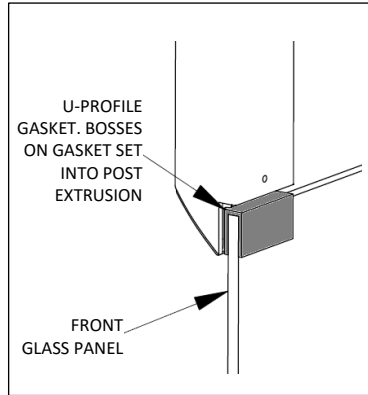

Fig. H11 – Top spacer gasket install
8. For front or back glass, place spacer gasket in position at top of glass before lifting panel into position. See Fig. H11. Bosses on spacer gasket for front glass should fit into post extrusion.